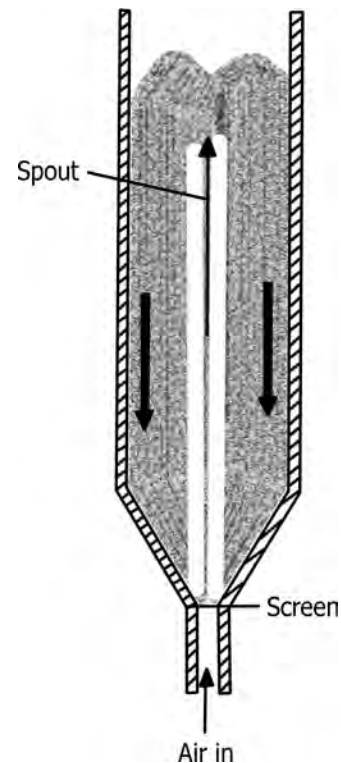

FIGURE 18.30 Principle of operation of a spouted bed dryer.
- Figure 18.30 illustrates the operation of a spouted bed dryer.